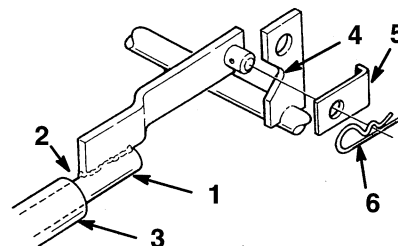

Figure 12
6. Optional spacer washers placed onto shaft of lift rod will increase lift height (Fig. 12).
7. Connect lift rod to "V" notch in attachment lift with retainer and hairpin cotter (Fig. 12).